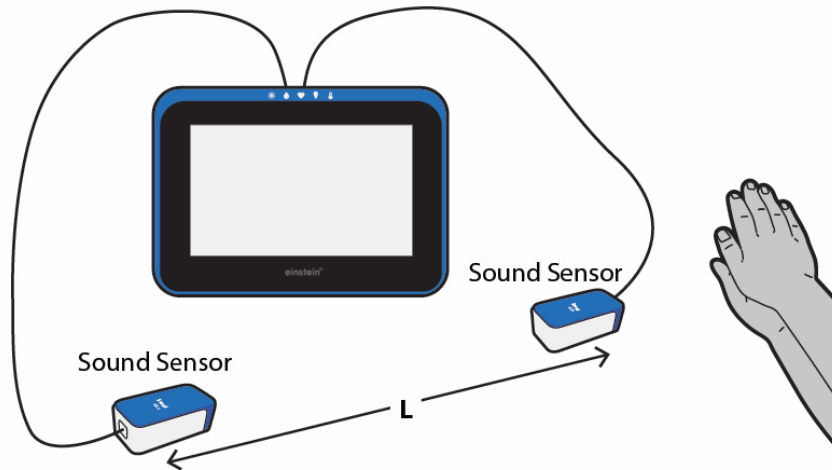

Figure 1
- Detach the Voltage sensor from the terminals of the capacitor and connect them to the terminals of the signal generator (points A and B in Figure 1). The negative terminal (black) of the Voltage sensor should be attached to point A and the positive terminal (red) should be attached to point B. Leave the other Voltage sensor connected to the terminals of the resistor.
3. Place the two microphones at least 2m apart, both facing the sound source (see Figure 1).